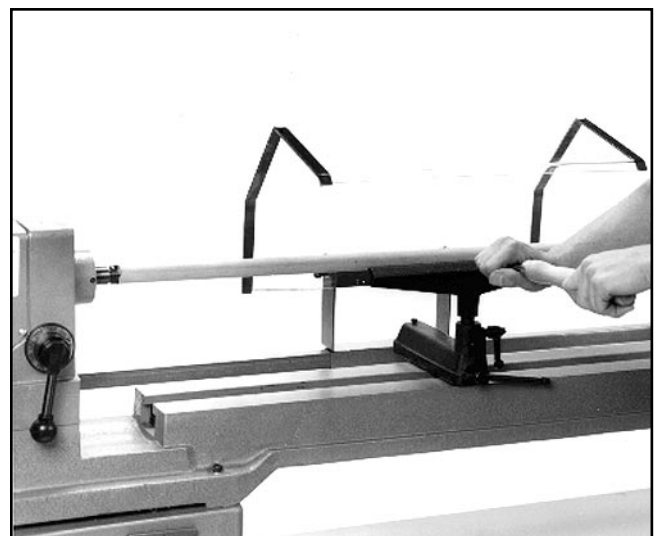

Figure 26. Typical spindle turning setup.
6. Adjust the tool rest as close to the workpiece as possible without actually coming in contact with the workpiece. Test by hand turning the workpiece before turning lathe on. Ensure that the lathe chisel is fully supported by the tool rest. Support the lathe chisel on the tool rest with one hand, while controlling the chisel with the other hand. **See Figure 26.**